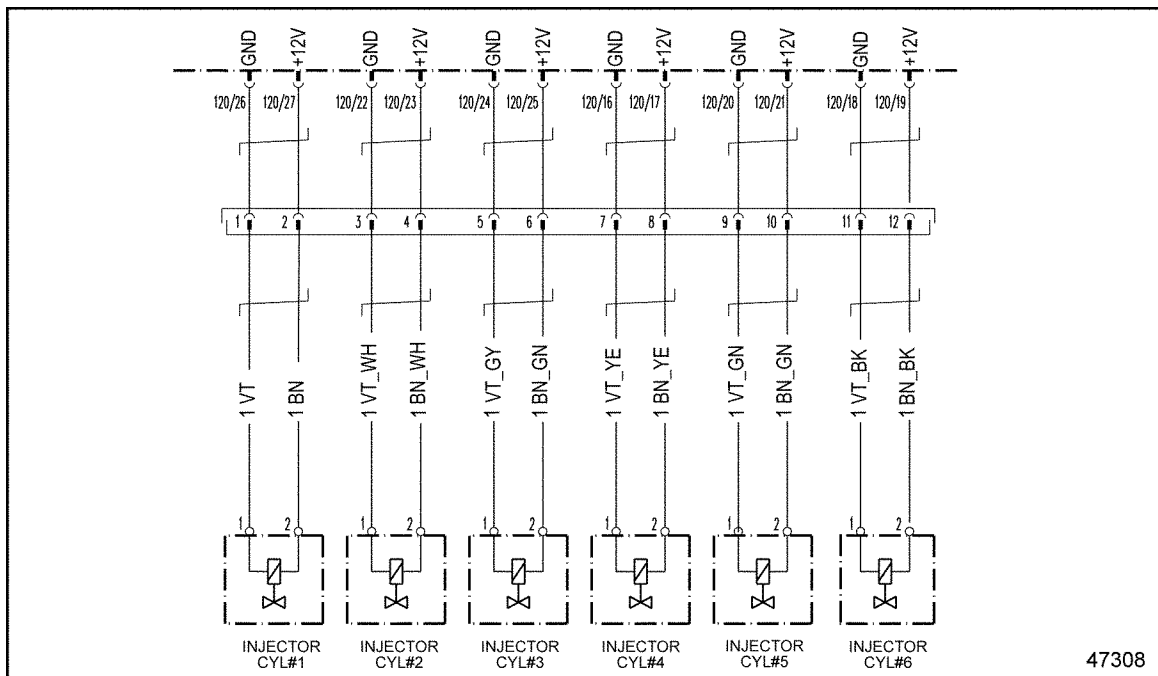

Figure 29-2 MBE 900 Injectors
3. Measure the resistance between pin 11 of injector #6 and ground on the valve cover side of the Injector Harness 12-pin connector. See Figure 29-2.